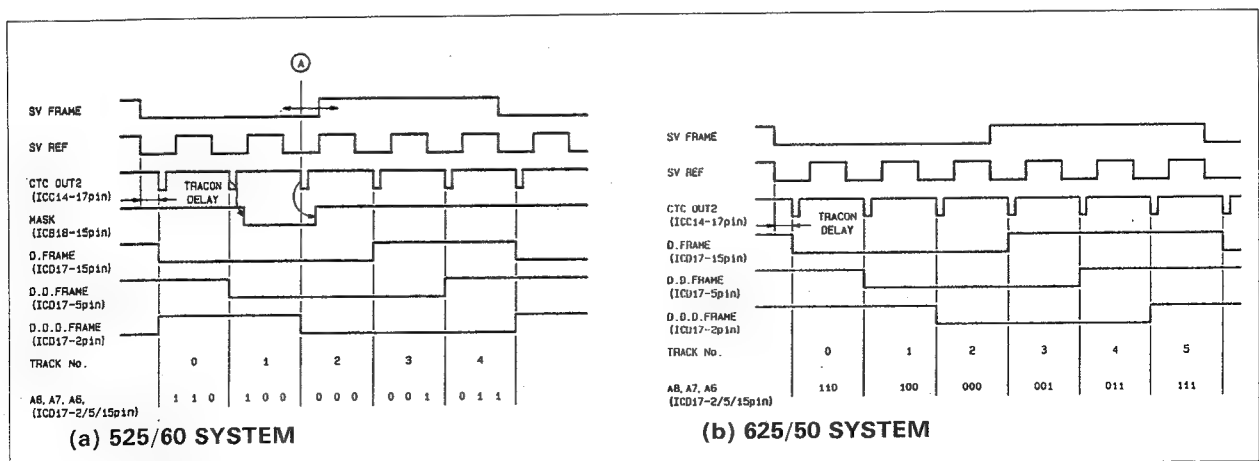

Fig. 4-3-14. Timing Chart (CD-35 Board)
Fig. 4-3-14. shows the relationship between the track number and addresses A6 to A8 of ICD20. In the 525/60 system, the D.FRAME signal may become either "H" or "L" in section (A), depending upon the tracking delay. Thus, in the section where the tracking number is 1, a mask is applied to SV FRAME, so the D.FRAME is made "L" level over the section between track numbers 0 and 2, and is made "H" level over the section between track numbers 3 and 4. The output from D7 (pin 19) of ROM ICD20 is used as the masking signal for the SV FRAME signal.